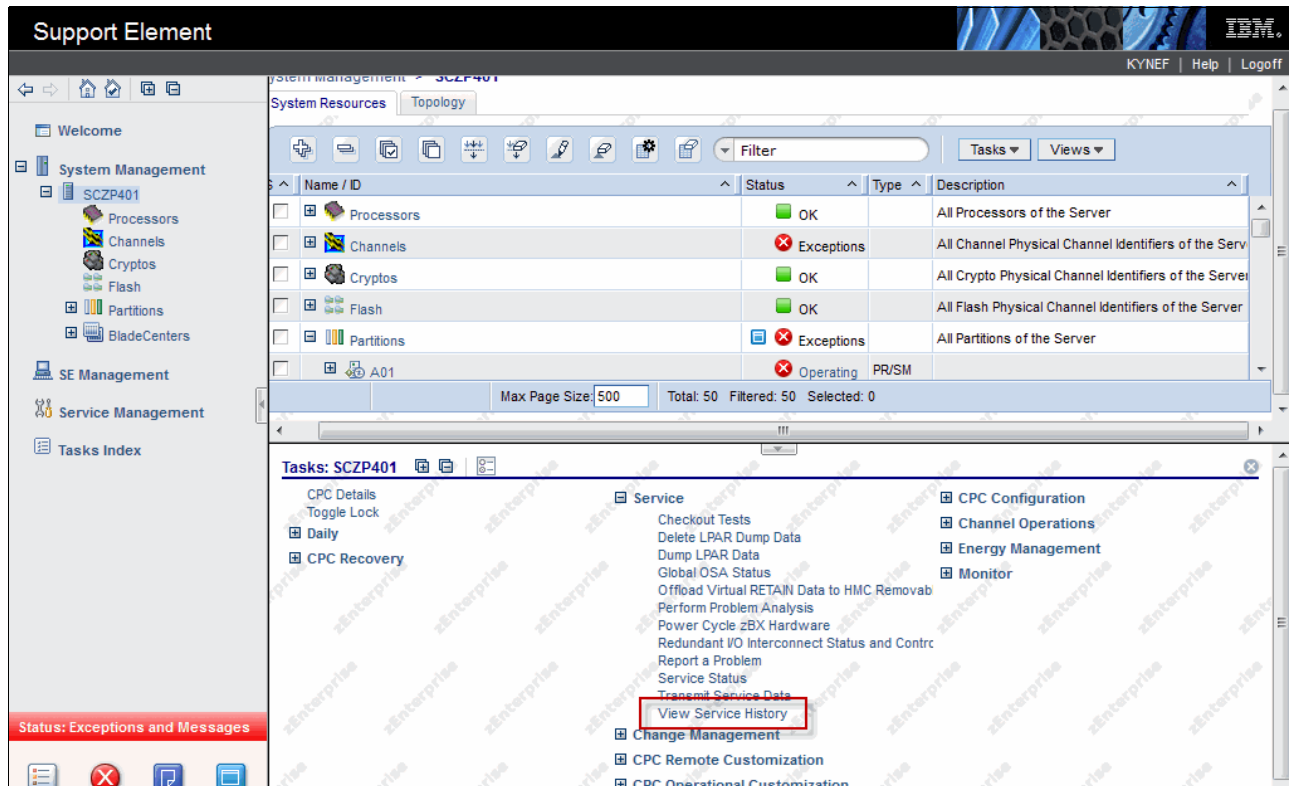

Figure 5-22 Retrieving the PMV number
- Allow a little time for the PMV to be processed in IBM. Then go back to the Support Element window. In the Service drop-down, click **View Service History** as shown in Figure 5-22 on page 188.